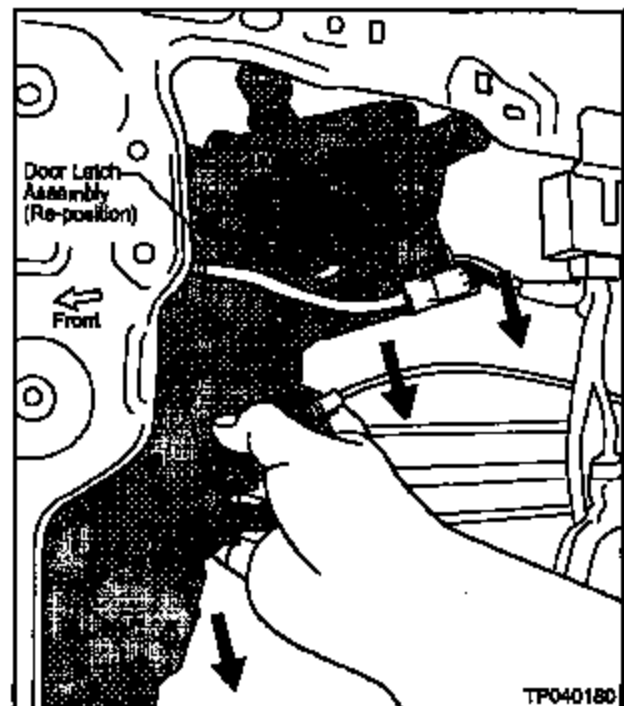

Figure 13
11. Reposition the Door Latch Assembly down and out of the door opening (see Figure 13).